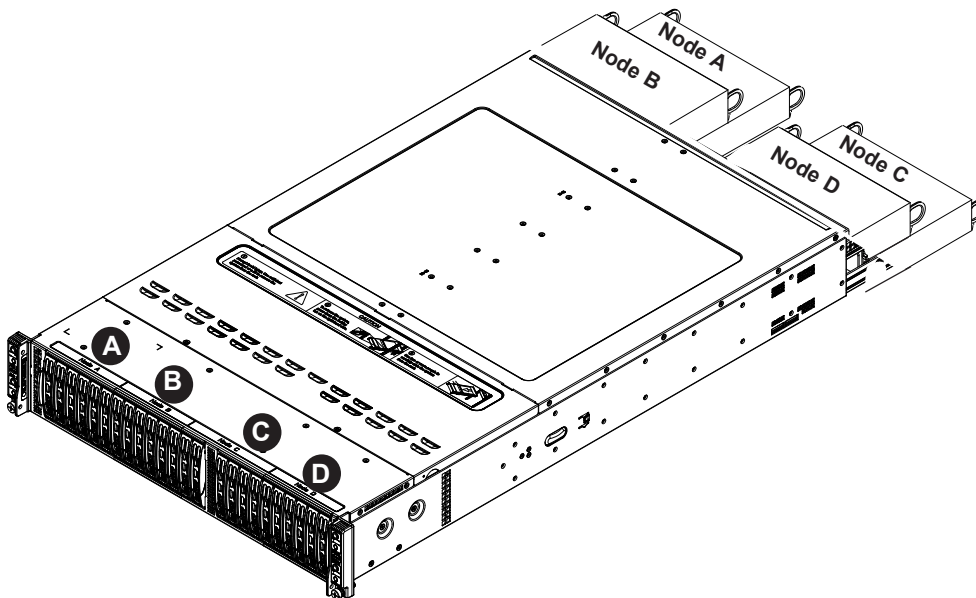

Figure 3-6. Storage Drives and the Corresponding Nodes
3. Remove the dummy drive from the carrier (Figure 3-6).